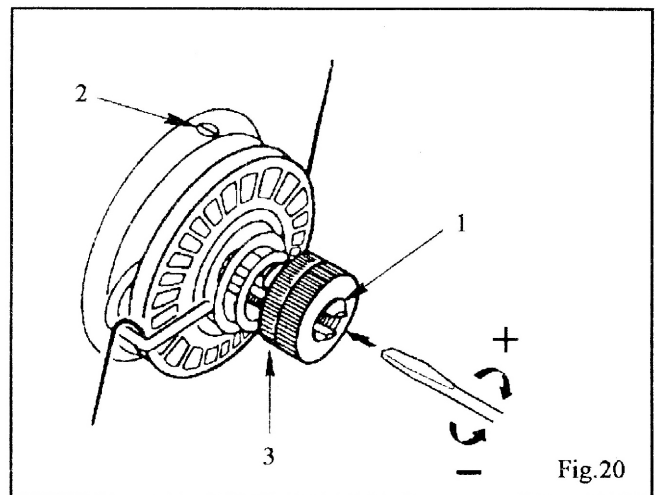

Fig.20
To adjust the amount of take-up spring movement, loosen screw (2), Fig. 20, and set take-up spring height by turning the entire tension assembly (3) toward left or right, as required. Securely tighten screw (2).